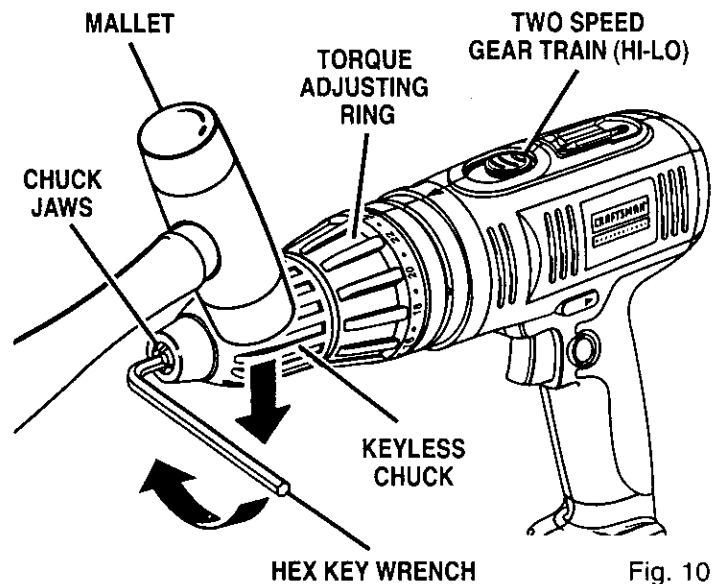

Fig. 10
See Figure 10, 11, and 12.
- Tap the hex key wrench sharply with a mallet in a clockwise direction. See Figure 10.